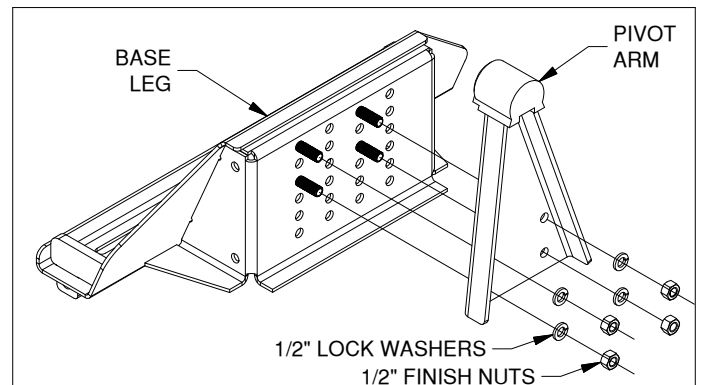

Figure A3: Base Leg and pivot arms.
3. Locate both pivot arms, eight 1/2" split lock washers, and eight 1/2" nuts. Place the flat side of the pivot arm over the cap screws and attach eight lock washers and nuts, see Figure A3. Torque each bolt connection to 110 ft. lbs.